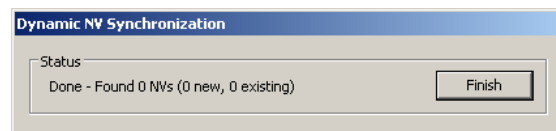

Figure 97: Synchronizing dynamic NVs from the device.
2. Right-click and select **Sync Dynamic NVs** in the context menu. The Configurator then loads any new dynamic NVs, which have been created but are not yet represented by data points on the CEA-709 port. The process completes when the dialog shown in Figure 97 appears.